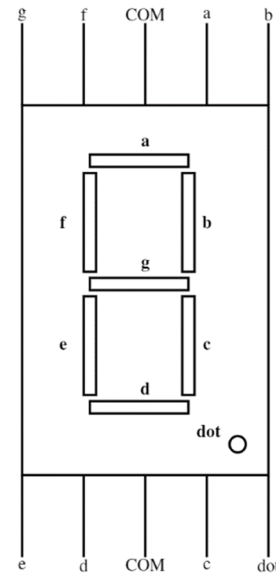

Figure 1: Seven Segment Display
- 1) Make connections between the seven segment display in Fig 1 and the 7447 IC in Fig 2 as shown in Table I